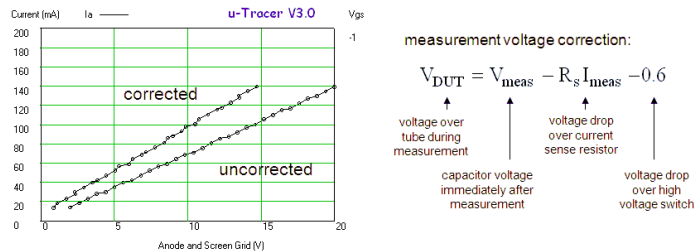

Figure 8.12.1 I(V) curve of a 100 ohm resistor showing the impact of the anode/screen voltage correction for low voltages.
So far I neglected the effect that the anode and screen currents have on the anode and screen voltages. There are three effects: in the first place there is the voltage drop over the current sense resistor. In the second place the currents discharge the buffer capacitors, and finally there is the voltage drop over the high voltage switch. All these three effects lower the effective anode and screen voltages. Fortunately the three voltages drop can easily be measured or calculated (Fig. 8.12.1). The voltage drop over the sense resistor simply equals the measured current times the resistance of the sense resistor. The approximate voltage of the buffer capacitor at the moment of the current measurement is also known because the voltage of the buffer capacitors is measured immediately after the measurement pulse. The voltage over the high voltage switch is approximately constant (0.7 V).
Figure 8.12.1 shows two I(V) measurements of a 100 ohm resistor connected between anode and cathode connections of the uTracer, with and without correction of the measurement voltage. Note the large difference between the curves! Both lines appear to be less “smooth” than the normal uTracer curves. There are a number of factors involved here. First we have to realize that we are at the limits of the AD converter. With a 10 bit AD converter sized for a 380 V range the voltage step per bit is ca. 0.4 V. Looking at the “uncorrected curve” we can observe small jumps in the line about every 4 measurement points. Clearly aliasing effect related to the AD converter. The “corrected curve” obviously also suffers from the limitations of the AD converter, but additionally a correction voltage, which in itself